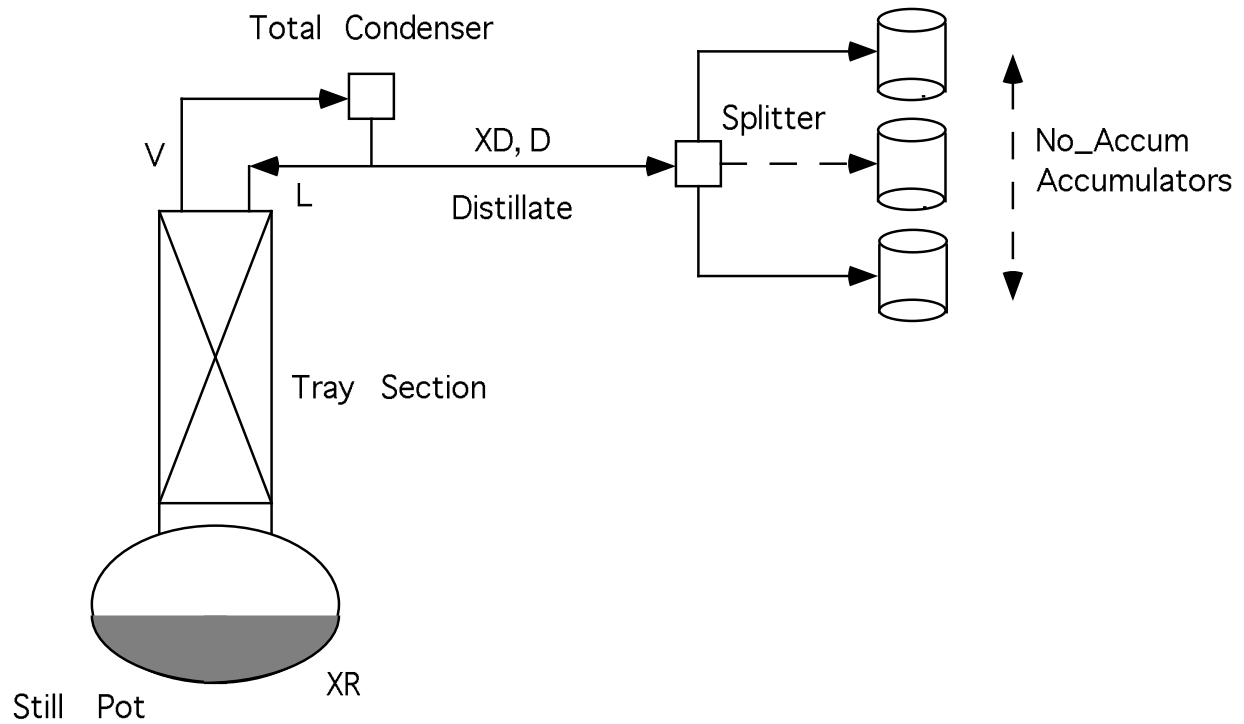

Figure 1: Flowsheet for Batch Rectifier and Associated Equipment
This example uses a more complex model to simulate a separation similar to the first distillation task in the ICE process. The model is of the flowsheet shown in Figure 1, which contains a batch rectifier and a number of accumulators to collect overhead cuts. The number of accumulators can be changed by changing the value of an integer parameter in the flowsheet model.
5. a **MODEL** block **RectifierFlowsheet** that models the entire flowsheet shown in Figure 1. It creates instances of **BatchRectifier**, **Splitter** and a number of **Accumulators** determined by the integer parameter **No_Accum** (two accumulators initially). The **Equation** section connects the streams of these model instances together. Also, the number of chemical components in the flowsheet is given, and values are specified for physical property parameters related to pure component vapour pressure and binary parameters for the Wilson model.